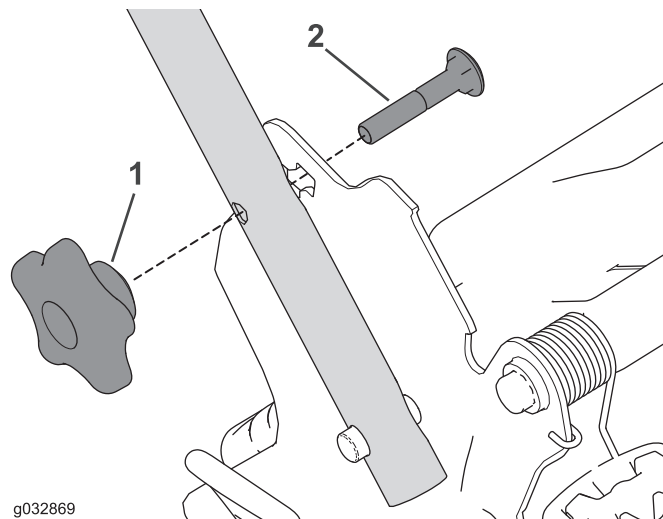

Figure 25
1. Remove and save the 2 handle knobs and 2 carriage bolts from the handle brackets (Figure 25).